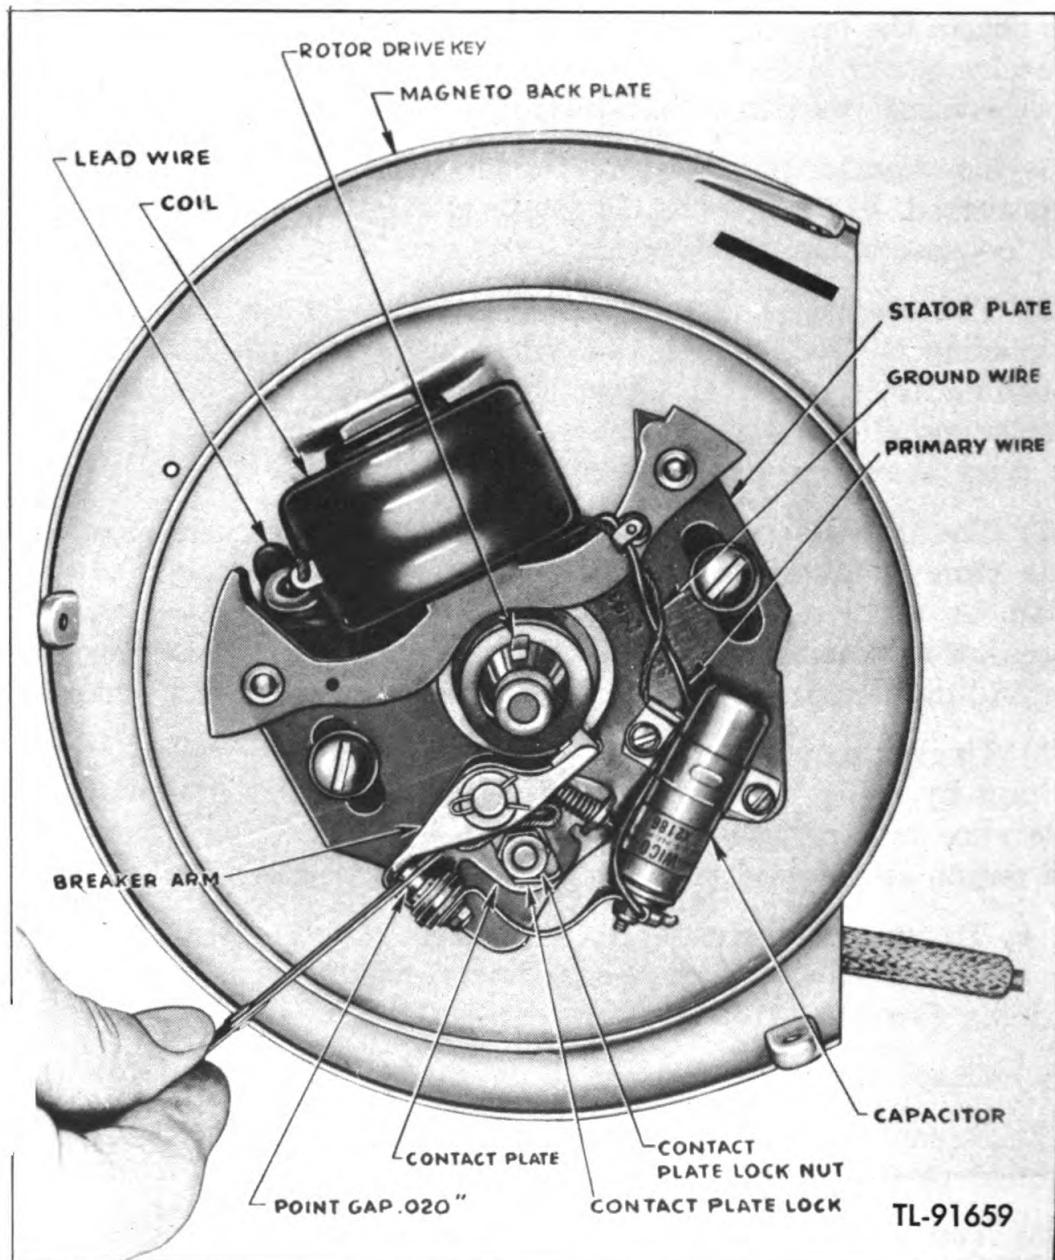

Fig. 10—Magneto Point Adjustment
(2) If the spark produced will not meet the above test, it is very likely that the breaker points require adjustment and should be gapped to a .020 inch opening. The only adjustable part on the magneto is the breaker plate (476), which provides adjustment for the breaker points.
(3) To adjust the breaker points, proceed as follows:
- (a) Remove spark plug shield, spark plug and cylinder head baffle (414).
- (b) Then take off the magneto flywheel housing (437).
- (c) Unscrew the starter pulley (432) from the crankshaft.
- (d) Screw on the flywheel removal tool (452) supplied with the equipment and tap the tool on the end to loosen the flywheel (479).
- (g) Check opening (fig. 10) with feeler gauge (457). Correct opening is .020 inch.
**NOTE:** Although the contact points remain open during the entire travel of the cam (466) from the breaking edge, being closed only while the flat section of the cam is passing the breaker arm (465) fibre, the cam must be positioned so the breaker arm fibre rests on the highest point of the cam when gauging the point opening.
(4) If the points need resetting, bend down the contact plate lock (fig. 10), loosen the lock nut (475) which holds the breaker plate (476) in position and move the plate up or down as necessary to obtain the proper point opening. After setting is accomplished, be sure to tighten the lock nut (475) and bend the ear of the plate lock against the flat of the lock nut so it cannot loosen up.
(5) The breaker plate setting should be made only in the manner prescribed. At no time should the fixed contact on the plate (476) be loosened or the breaker arm (465) bent to provide adjustment.
(6) The moving contact is integral with the breaker arm. In replacing the breaker arm (465), make certain the breaker arm bushing is in place. If either one of the contact points needs replacing, change both of them at the same time to insure satisfactory operation.
(7) The breaker arm bearing is packed with a cam lubricant at the time of assembly and should not require additional lubrication. A small amount of this lubricant is also packed on the breaker arm cam wiper (481) and wipes off on the cam surface, providing permanent lubrication between these rubbing surfaces.
(8) Uneven or pitted points may be restored to a true even condition by using the point cleaner furnished with the equipment. Be sure to remove all dust particles after servicing the points. If points are in need of extensive dressing, replace them.